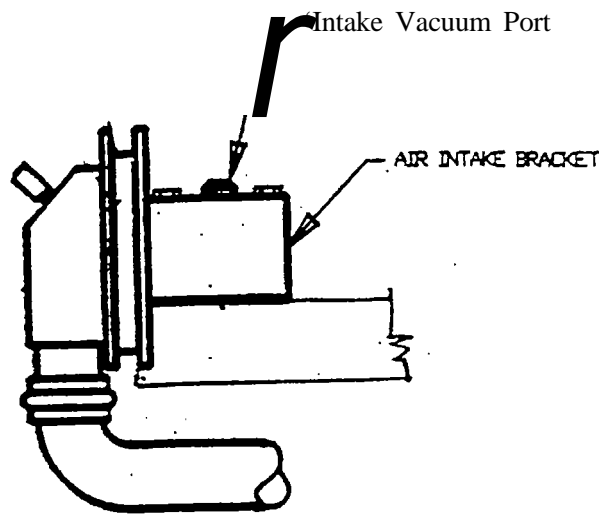

Figure 12. Intake Vacuum Port Location
28. ( ) Connect a manometer or magnehelic (vacuum gauge) to the intake vacuum port shown in Figure 12 . Run the engine at full throttle with no load. The intake vacuum does not exceed 30 inches of water column.